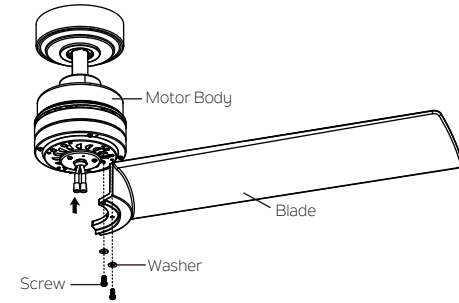

Fig. 16
**Step 1.** Lightly attach the blade to the motor body with washers and screws found in the blade attachment hardware pack. Then, securely tighten after two screws are attached.(Fig.16)